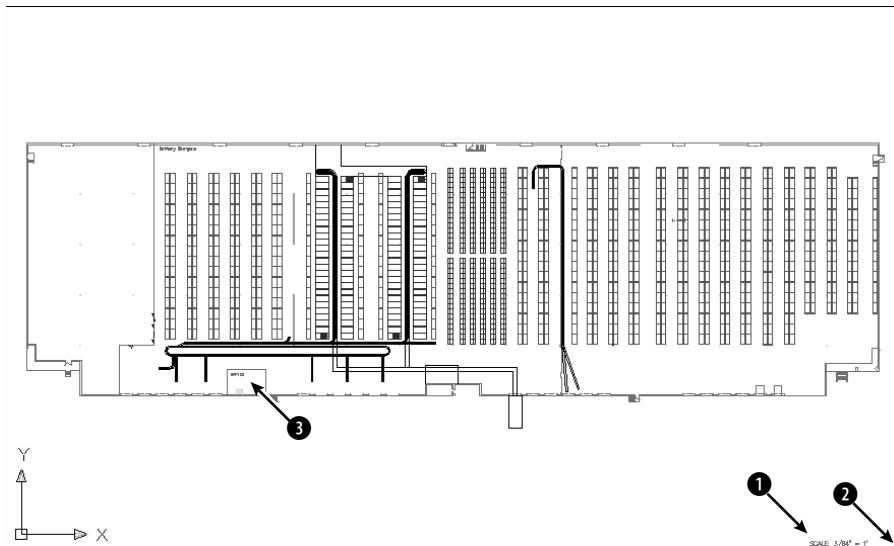

**Figure 8-4:** A drawing of a large warehouse, with shelving and conveyor belts.
1. Open ab08-b.dwg from the CD-ROM. This is a drawing of a warehouse, as shown in Figure 8-4.
3. At the Specify first corner: prompt, pick ❶, as shown in Figure 8-4. At the Specify opposite corner: prompt, pick ❷. AutoCAD or AutoCAD LT zooms in to display the window that you specified, as shown in Figure 8-5.
7. Choose Zoom Center from the Zoom flyout. At the Specify center point: prompt, pick ❸ in Figure 8-4. At the Enter magnification or height <5315.176>: prompt, type **500** ↵. You zoom in on the office.